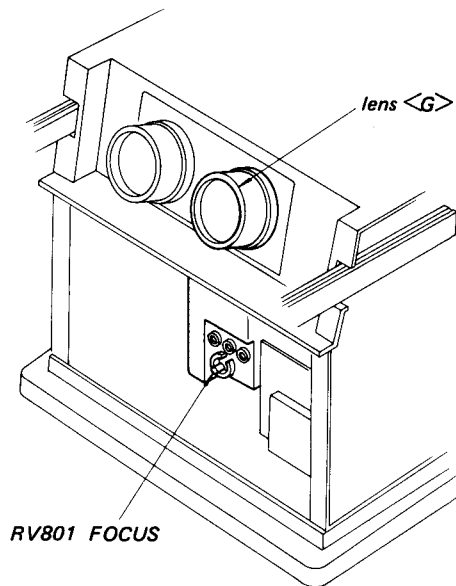

Fig. 3-3
- 2) Look at the picture tube <G> through the lens and adjust RV801 for best focus. (Fig. 3-3)